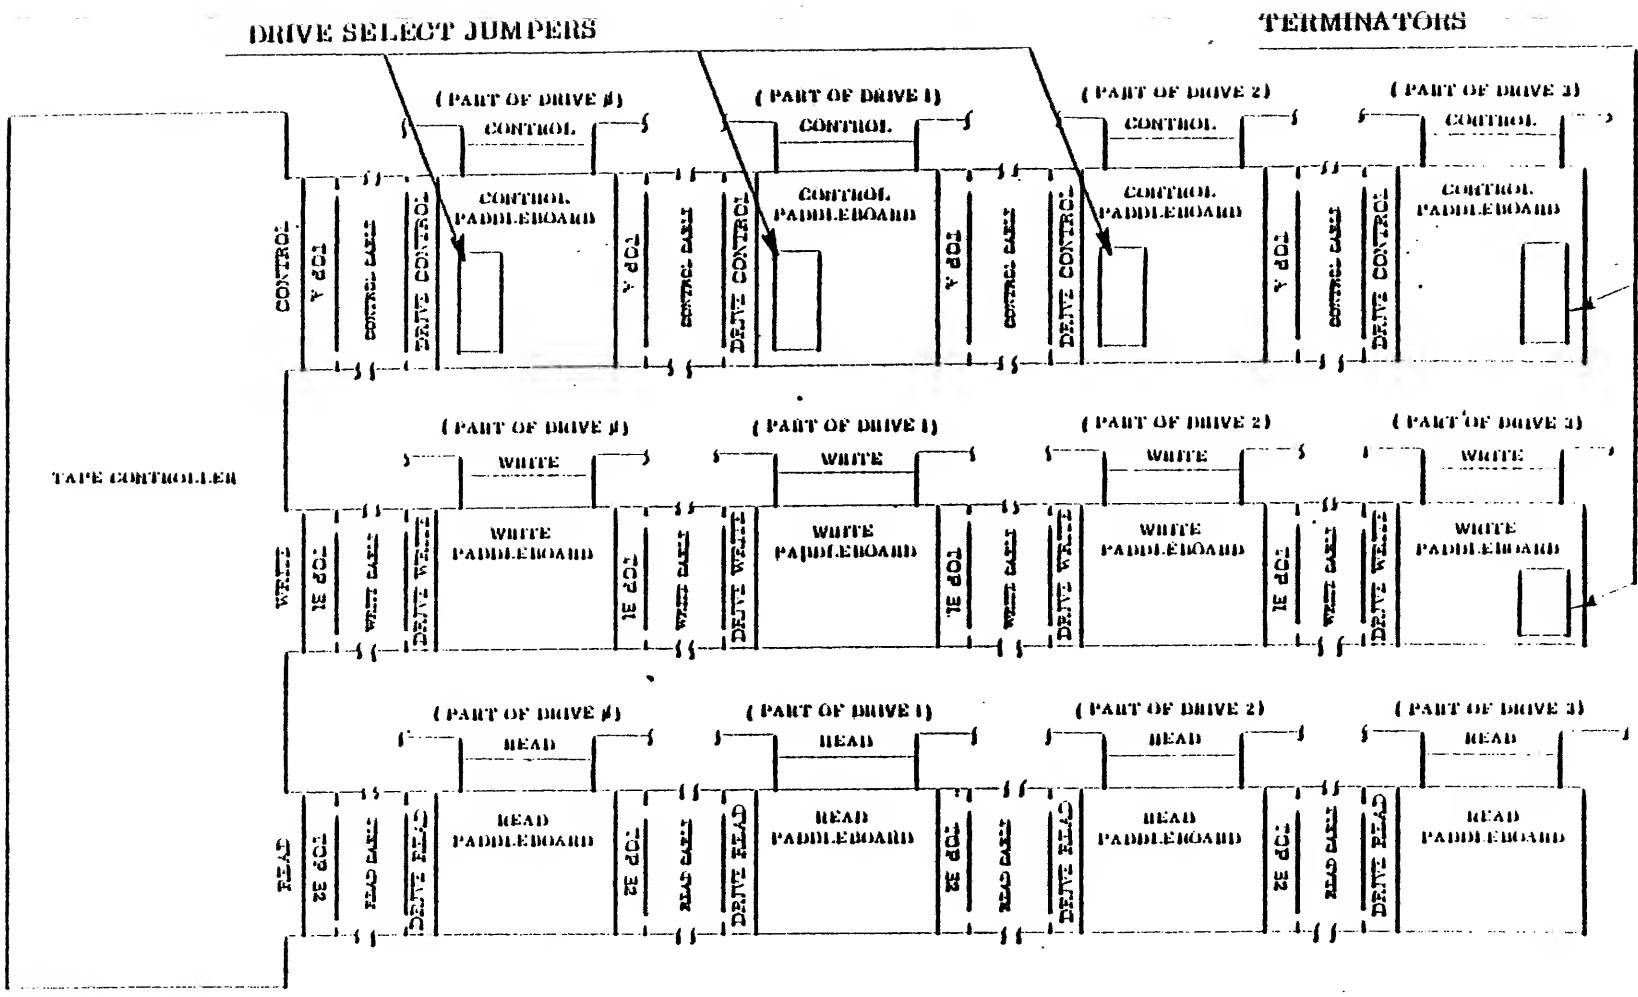

Figure 2-3. Tape Drive Daisy-Chain Connections
2.15 CONTROLLER BOARD INSTALLATION. Referring to Figure 2-3, place the controller boards into any convenient location of the system unit. Ensure the boards are oriented correctly (notches on the board connectors must fit the ridges of the system unit), and are seated fully.